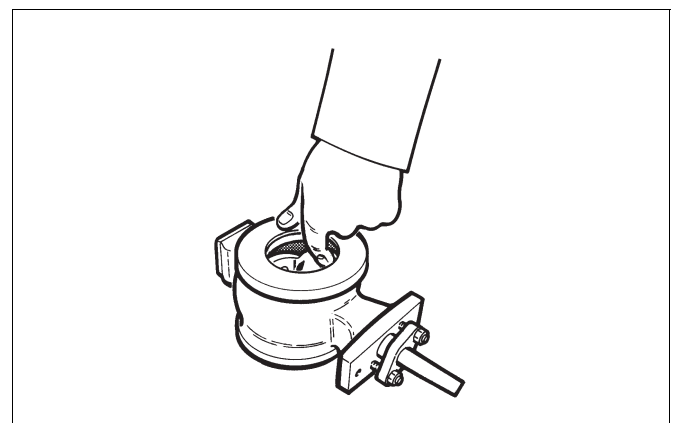

Fig. 11 Turning the ball segment
- Turn the segment (3) so that it does not touch the seat, Fig. 11.